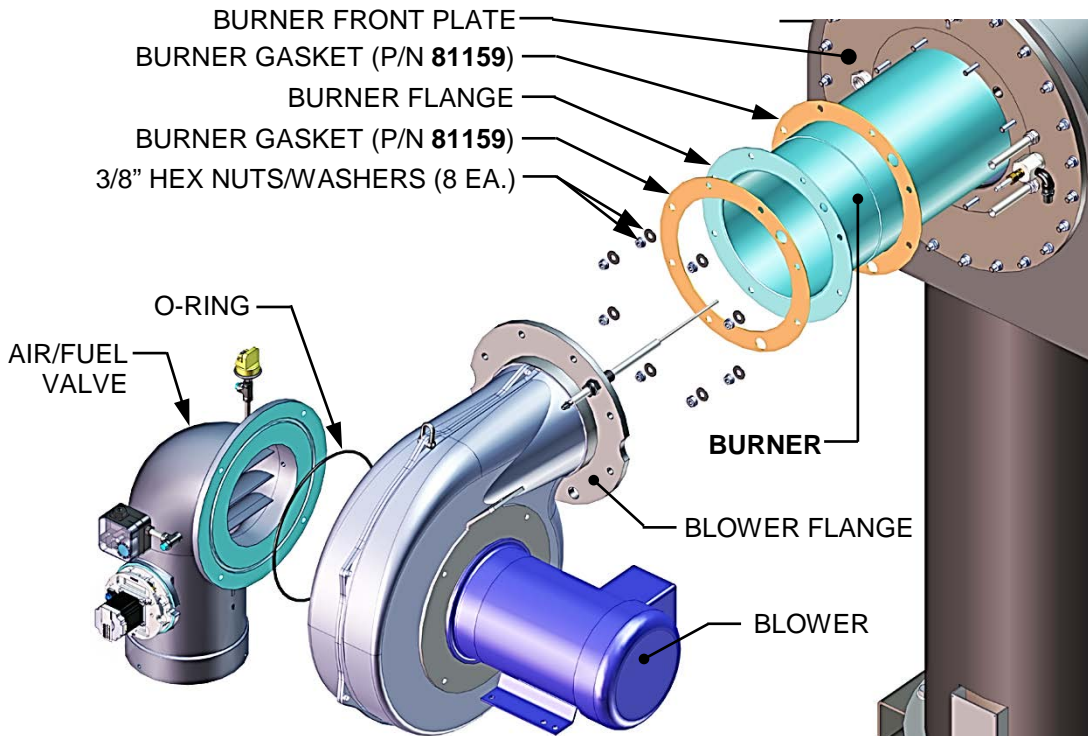

Figure 7-5: Burner Assembly – Exploded View
20. Remove the Blower from the Burner by pulling outward. Be careful not to allow it to swing and damage other equipment components. Refer to the exploded view in Figure 7-5.
24. Remove and replace the two (2) Burner Gaskets (see Figure 7-5) and clean the gasket surface on the burner front plate.
25. To reassemble, begin with the Burner assembly and reinstall all the components in the reverse order that they were removed. The Burner may have a nut installed at the base position to keep the Burner level while installing the Blower (Figure 7-5).